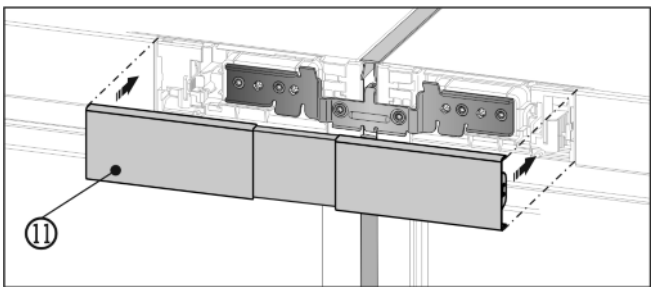

Fig. 15
- ▶ Snap the top cover Fig. 15 (11) onto the still open gap between the two control panel trims. Make sure that the outer sides of the cover form a flush finish with the control panel trims